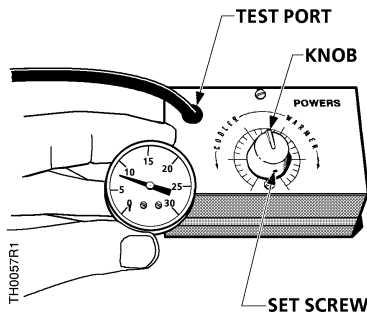

Figure 3. Test Port and Gauge Used for Calibration.
3. Loosen (do not remove) return line test port screw. Slip rubber line over test port and connect to a test gauge (*Figure 3*).
2. Remove knob and cover from thermostat, as shown in *Figure 3*.